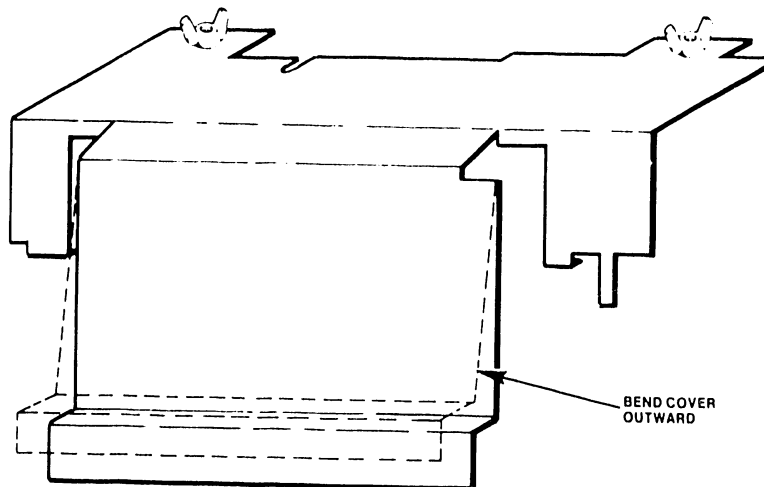

FIGURE 13
It may be necessary to bend the rear plate of the PC card cage cover out to make good mechanical contact with the ground plate. Refer to figure 13.
6. Be sure that the PC card cage cover is making good mechanical contact with the ground plate. It may be necessary to bend the rear plate of the PC card cage cover out to make good mechanical contact with the ground plate. Refer to figure 13.